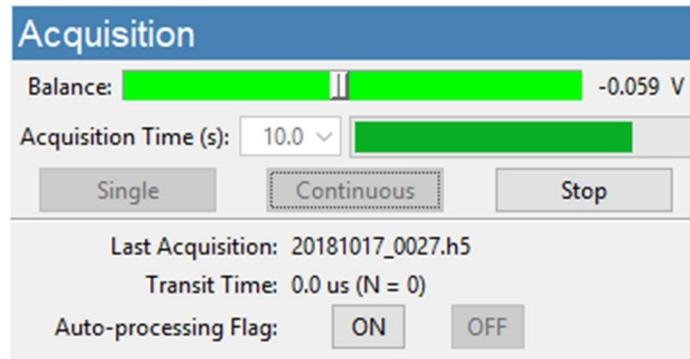

Figure 6. Acquisition frame.
- Continuous-mode acquisition may be manually started by pressing the “Continuous” button (Figure 6).